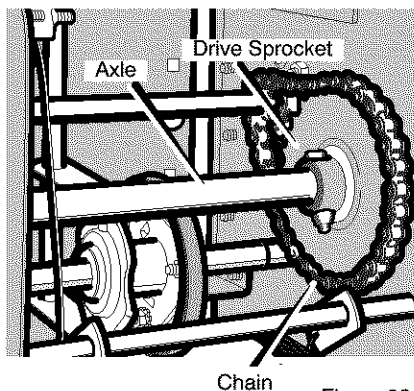

Figure 32
7. Remove the fasteners that secure the **drive sprocket** to the **axle** (see Figure 32).
- Install the left wheel, **axle**, and **drive sprocket** with the fasteners removed earlier. Install the **chain** onto the **drive sprocket** (see Figure 32).